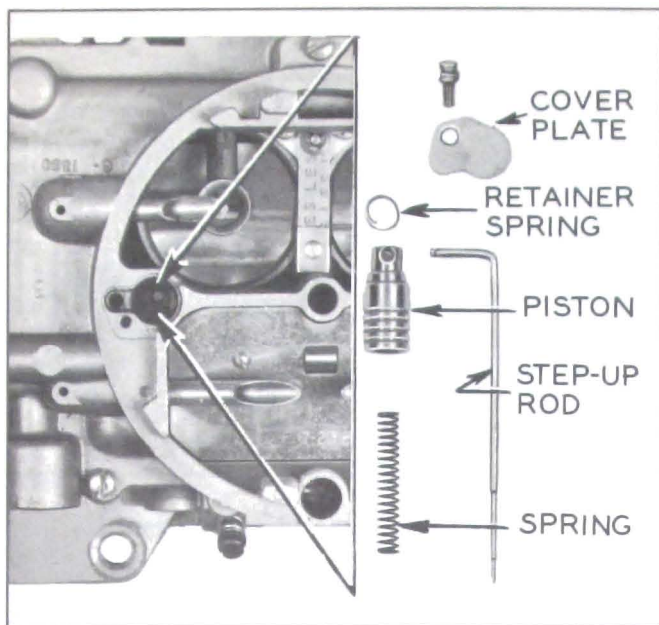

Figure 3-38—Step-Up Rod and Related Parts
3. Remove screws holding two step-up piston cover plates to air horn. Remove cover plates and remove each step-up piston, rod, and rod retainer spring as an assembly. Then remove two step-up piston springs. See Figure 3-38.